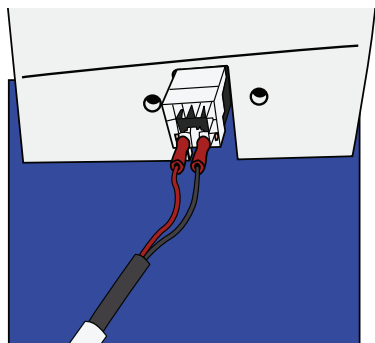

Figure 93
33. Connect the Emergency stop cables. Make sure they are in the middle positions. See Figure 93.